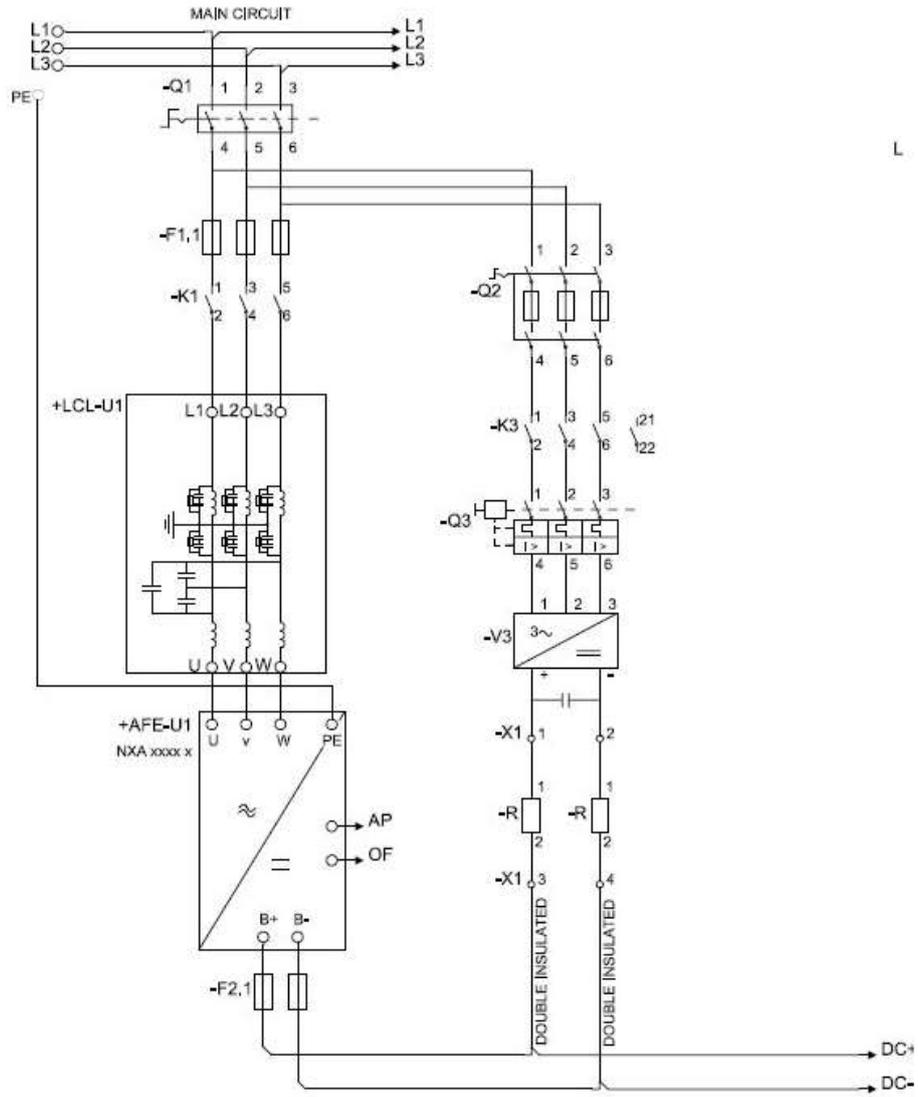

Figure 5. Connection
The Grid Converter is utilised by using AFE hardware with special software. An external LC(L)-filter and charging circuit is needed. This unit is selected when low harmonics are required. The principle connection of AFE drive has been described in Figure 5.
1. Connect the unit according to the Figure 5.